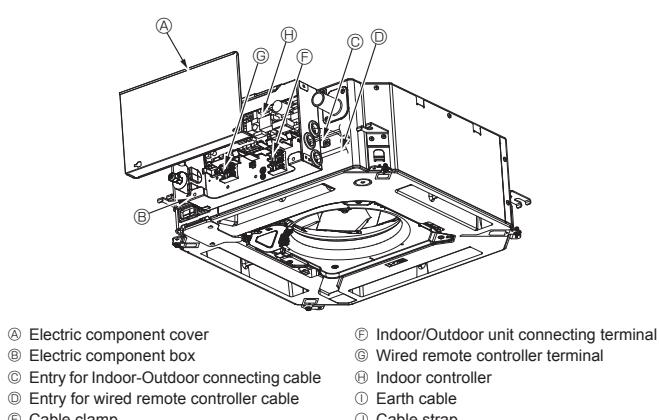

Fig. 7-3
7.2. Indoor unit (Fig. 7-3) (Fig. 7-4) (Fig. 7-5)